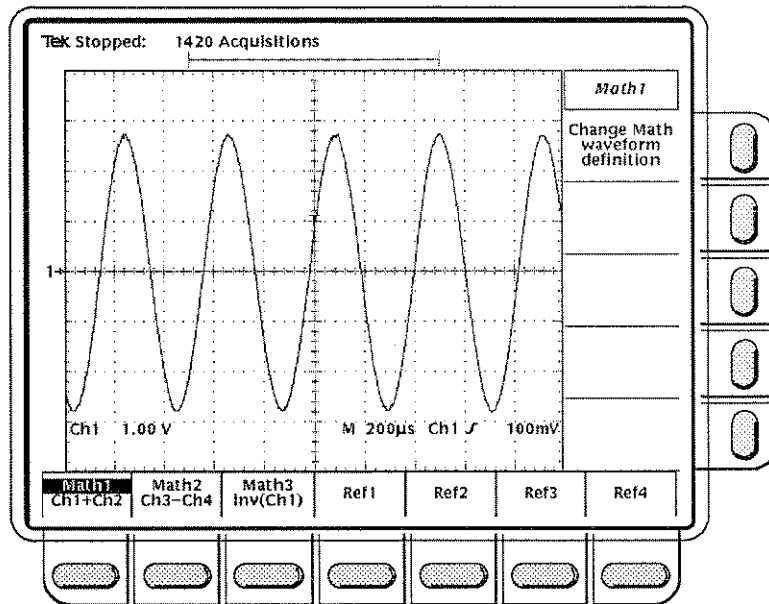

Figure 3-70: More Menu
- Step 1:** Press the **MORE** button to bring up the More menu (Figure 3-70). The More menu allows you to display, define and manipulate three math functions.
- Step 2:** Press the main menu key corresponding to the math waveform you wish to display or change. You can choose **Math1**, **Math2**, or **Math3** (Figure 3-70).
- Step 3:** Press the side menu **Change Math waveform definition** key to bring up a second set of main and side menus to alter the present math waveform definition (Figure 3-70).